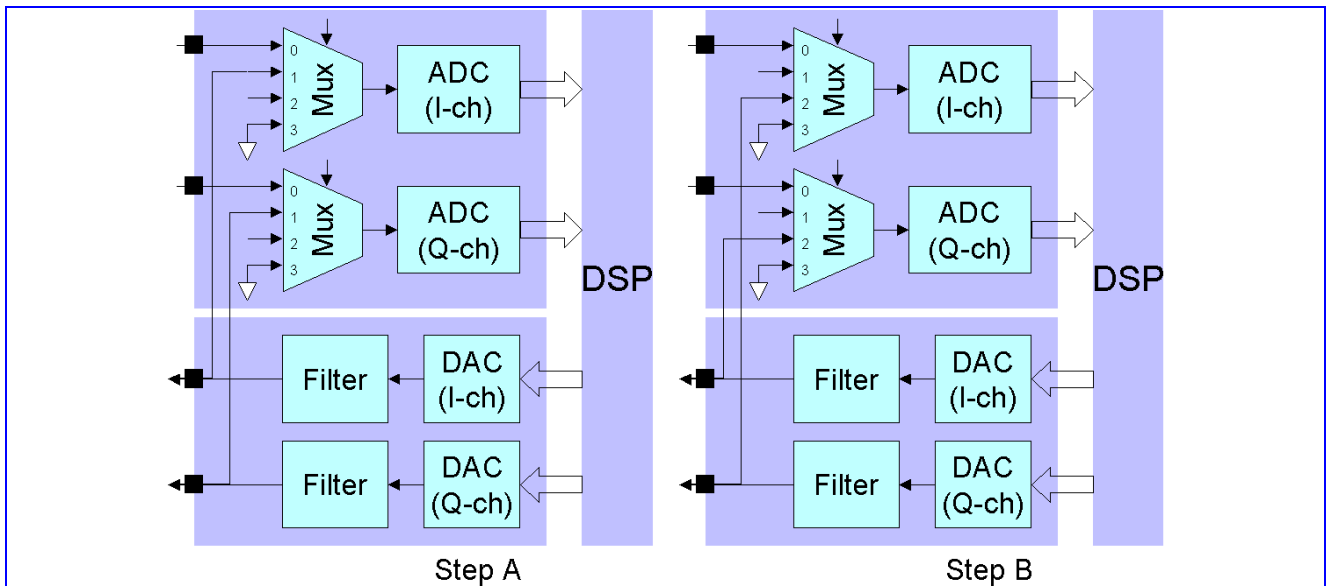

Figure 97 Downlink RX and Up-link TX Gain Mismatch Measurement (A) I/Q TX connect to I/Q RX (B) I/Q TX connect to Q/I RX
- The uplink I-channel output are connected to the downlink I-channel input, and the uplink Q-channel output are connected to the downlink Q-channel input. This can be achieved by setting **ISEL [1:0] = '01'** and **QSEL [1:0] = '01'** (shown in **Figure 97 (A)**).
- The uplink I-channel output are then connected to the downlink Q-channel input, and the uplink Q-channel output are connected to the downlink I-channel input. This can be achieved by setting **ISEL [1:0] = '10'** and **QSEL [1:0] = '10'** (shown in **Figure 97 (B)**).